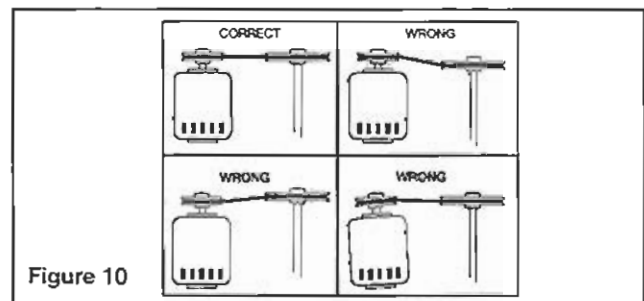

Figure 10
10. If adjustments are made, it is very important to check the pulleys for proper alignment. Misaligned pulleys lead to excessive belt wear vibration, noise and power loss, see Figure 10.